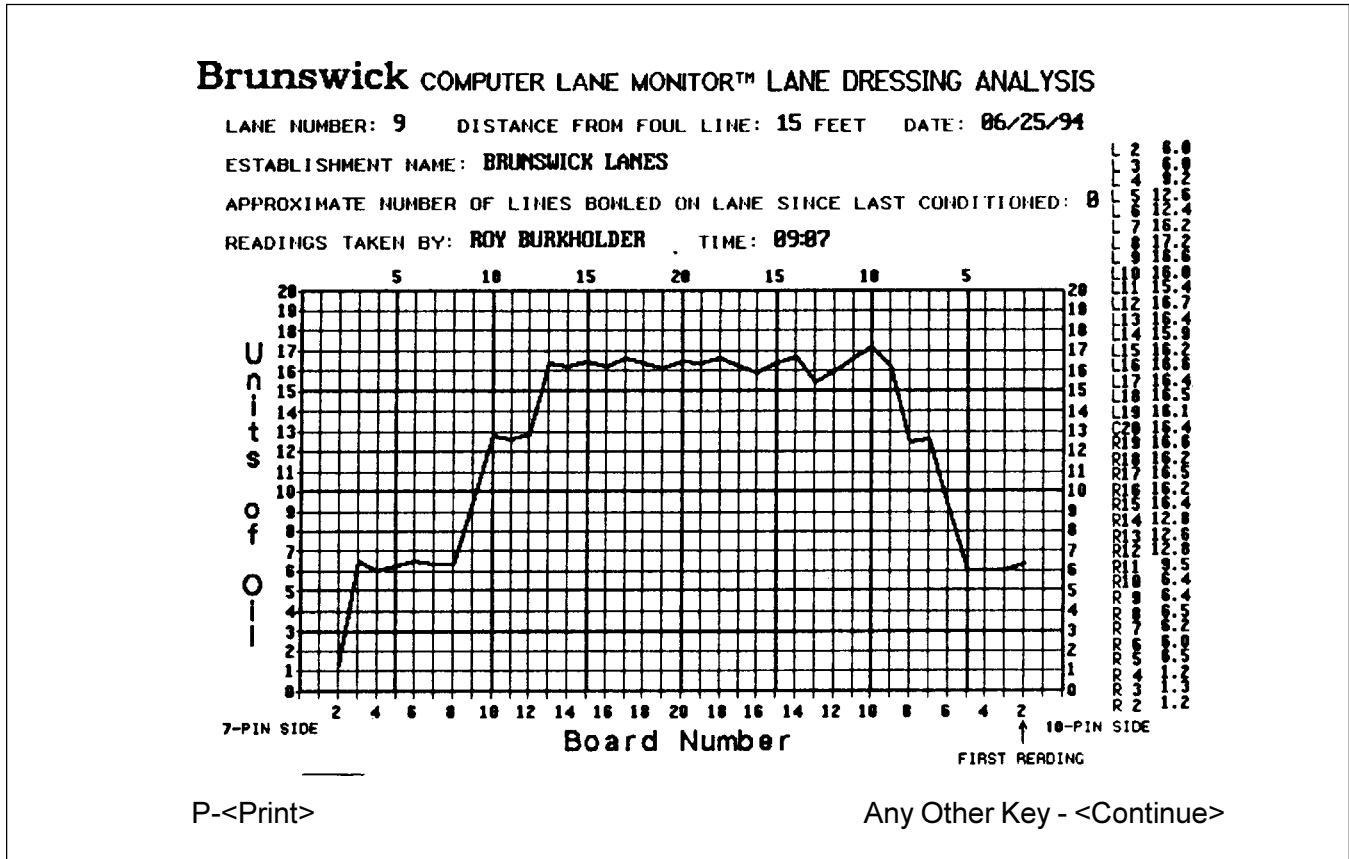

Figure 20 - Lane Dressing Analysis Graph
4. The lane dressing analysis graph will be automatically displayed as the end of the tape sample exits the Reader. The digital units of oil for each board position will be displayed in a column on the right of the screen. See Figure 20.